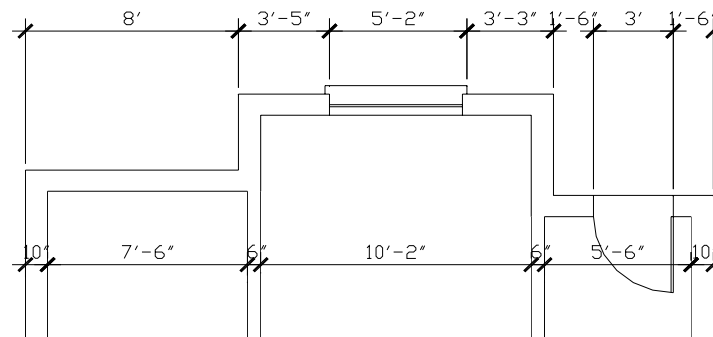

Figure 33. Dimensioning concrete/ masonry buildings
1. For opening dimension, dimension window/exterior door opening/interior partition locations from the outside of wall facing to the edge of the openings (Figure 33).